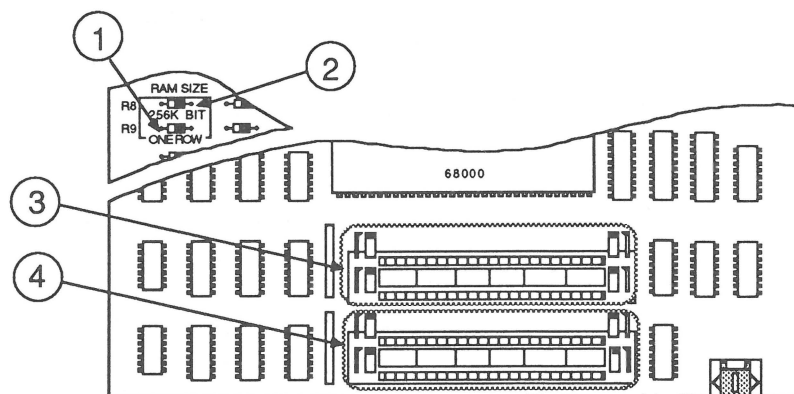

FIGURE 10
Note: For installation purposes, the SIMMs are labeled Bank A (Figure 10, #3) and Bank B (Figure 10, #4). Each bank or row is composed of two slots, and both slots must have a SIMM installed.
- If you have more than one bank of SIMMs installed, the ONE ROW, R9 (Figure 10, #1) resistor should be cut out using insulated wire cutters.
- If you have 256K SIMMs in both Bank A (Figure 10, #3) and Bank B (Figure 10, #4), the resistor marked 256K BIT, R8 (Figure 10, #2) must be installed.
2. Place the CRT face down on a workbench so that you are viewing the area shown in Figure 10.
3. Inspect the area around the bottom of the metal band that goes around the CRT. If the CRT has any adhesive tape extending out from under the band (Figure 10, #1), hold the CRT steady with one hand (be careful not to touch the anode) and use an X-acto knife to cut the tape back to the edge of the band. Cut away the tape on all sides of the CRT. If there is no tape extending out, go on to the next step.
4. Check along the bottom edge of the band for any overspray of the conductive spray (Figure 10, #2). Scrub the glass along the edge of the band with a brush that has been dipped in rubbing alcohol.